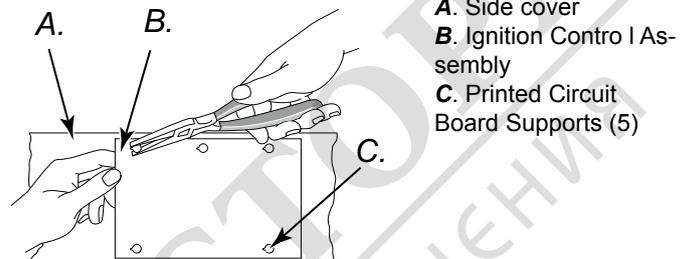

Figure 30 – Removing circuit board
3. Using needle nose pliers, squeeze the tab on the printed circuit board support and lift up on the edge of the ignition control assembly (see Figure 30). Repeat this for the other four printed circuit board supports then remove the assembly.